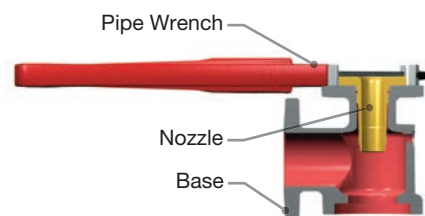

Figure 20: Removing the Nozzle from the Base
19. Use a large pipe wrench on the nozzle flange to remove the nozzle (2) from the base (1) (see Figure 20).